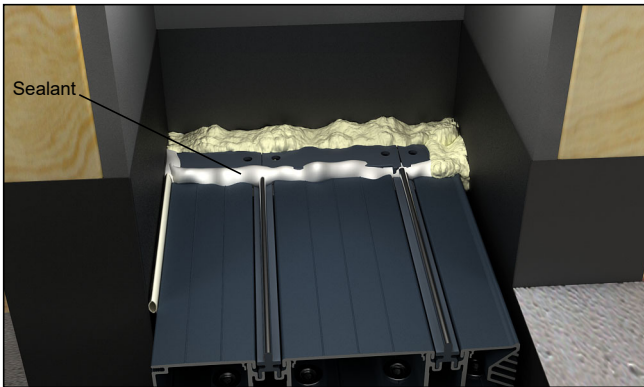

Figure 34
- For pocket configurations, apply sealant to the sill cover and end caps. Seal all the way from the interior lip of the interior sill cover to the pocket weather strip. See figure 34.